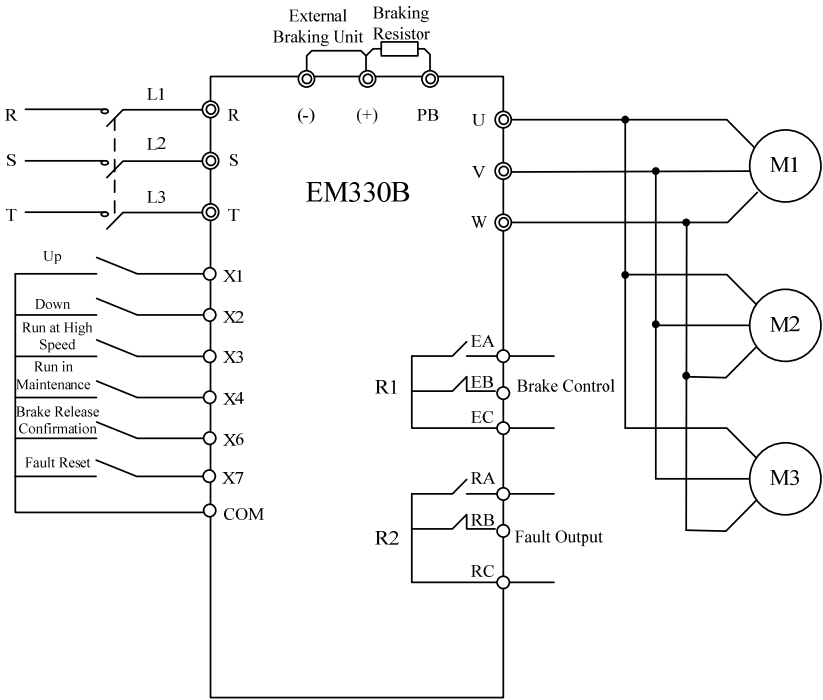

Figure 12-2 EM330B Wiring of Hoist Applications
2. Configure functions for EM330B as per Figure 12-2.